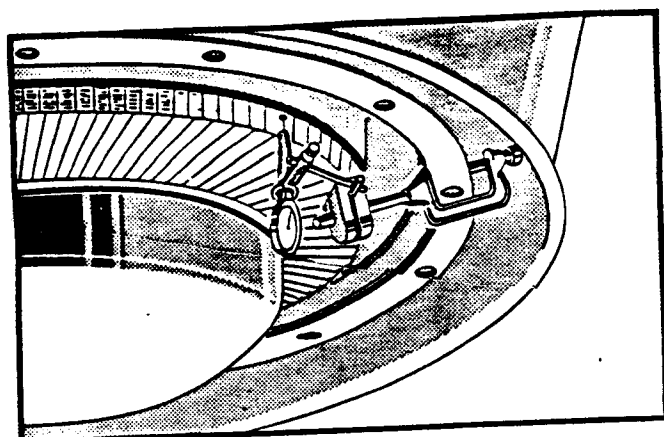

Figure 9. Checking Radial Play of Rotor
12. TOTAL SIDE (RADIAL) PLAY OR ROTOR.- Remove the exhaust hood and cooling cap assembly and rigidly attach a dial indicator on the mounting ring so that the point rests against the outside of the rim of the bucket wheel. (See figure 9.) Move the bucket wheel from side to side to check the total side play of the rotor for bearing wear. If the total side play is greater than 0.005 inch, the turbosupercharger must be replaced.